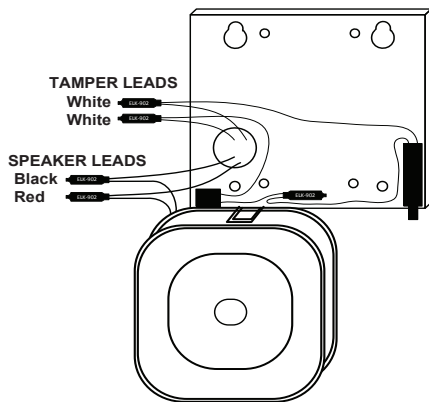

Figure 2
- Temporarily hang the speaker on the backplate by aligning the slotted insert on the top edge of the speaker with the 1/2" recessed tab on the bottom edge of the backplate. Press speaker onto tab. (See Figure 2)